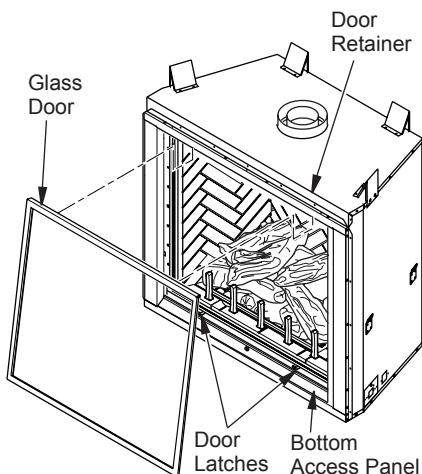

Figure 27 - Removing/Replacing Door
4. Tilt open glass door 45° from the bottom of firebox and lift up to release door from firebox top retainer (see Figure 27).
1. Position door frame in front of firebox opening with bottom of door tilted away from firebox (see Figure 27).